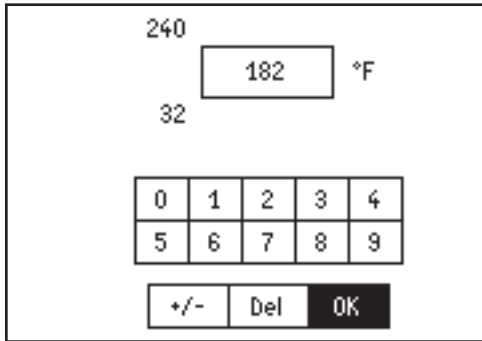

Figure 18. – Changing a Value
- Press the round OK button to select that line. **Figure 18** shows a typical screen for this type of setting.